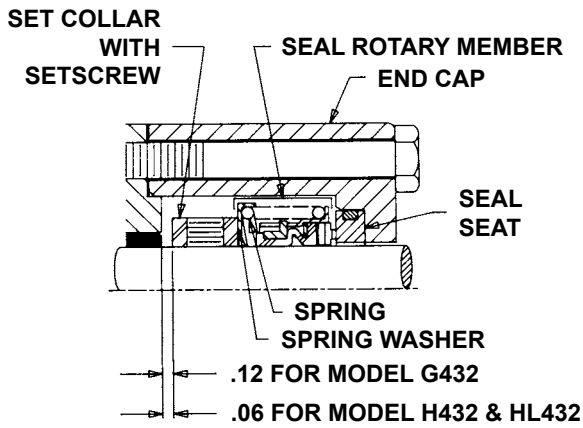

FIGURE 15 - SECTIONAL VIEW, SEAL AREA
Install the mechanical seal: Place the set-collar on the shaft and tighten setscrew. See Figure 15, page 8 for set-collar location.
- The spring washer and spring must be put on the shaft first and in that order. (See Figure 15, page 8).